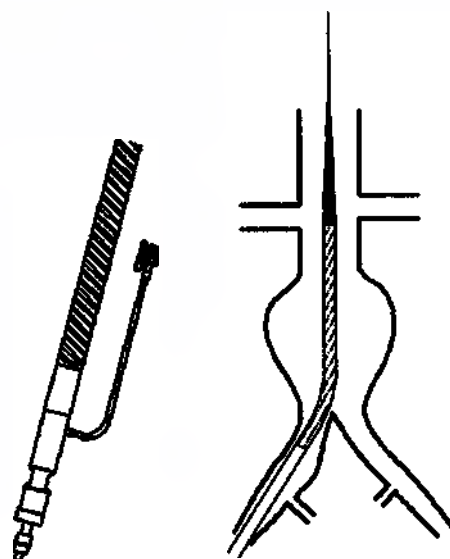

Fig. 5 Introduction of the AAA Stent Graft with Delivery System
- ✧ Advance the delivery system to the abdominal aneurysm along the guidewire, always maintain the hemostasis valve towards the other side of the patient. (Fig. 5)